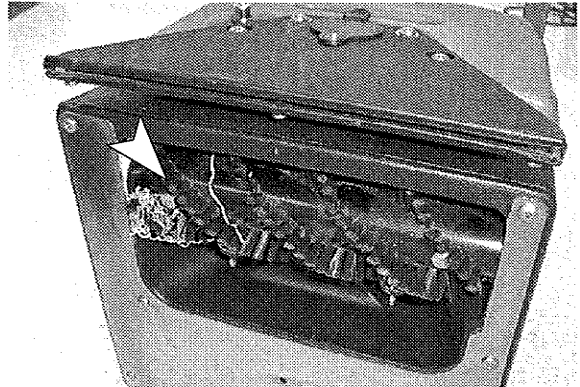

FIG. 16
5. Remove any entangled carpet fibers and debris from brush (Figure 16).